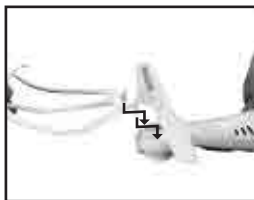

Figure 2
2. Install 4 "AA" batteries (not included) into the back of transmitter then replace battery cover and reinstall the screw (Figure 2).